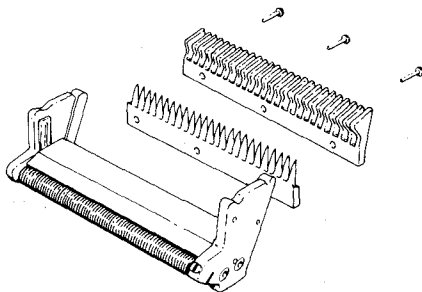

Fig. 95—Strip splice head.
- l. "Strip" splicing head by removing pair separators and wire guides. See Figure 95.